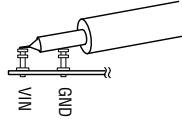

Figure 2. Measuring Input or Output Ripple
**NOTE:** When measuring the input or output voltage ripple, care must be taken to avoid a long ground lead on the oscilloscope probe. Measure the input or output voltage ripple by touching the probe tip directly across the Vin or Vout and GND terminals. See Figure 2 for proper scope probe technique.